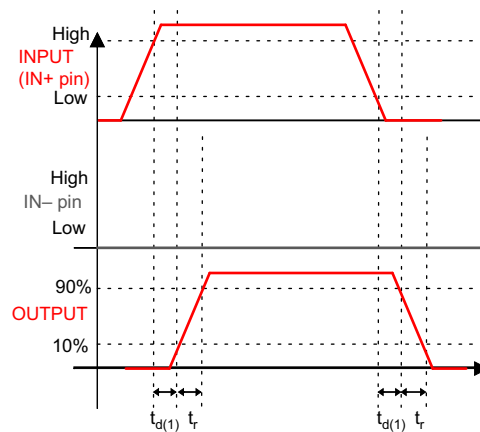
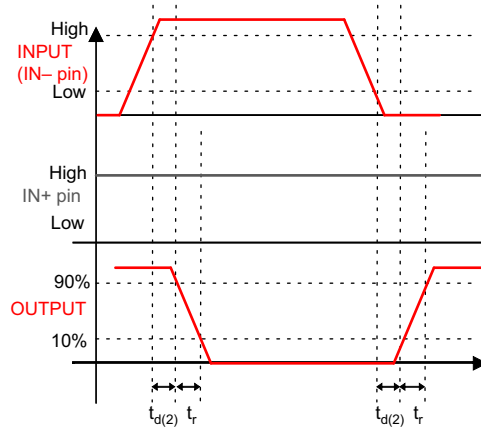

Figure 5-1. Non-Inverting Configuration (PWM Input to IN+ pin (IN– Pin Tied to GND), Output Represents OUTH and OUTL Pins Tied Together in the UCC27511A-Q1)
Figure 5-2. Inverting Configuration (PWM Input to IN– Pin (IN+ Pin Tied to V_{DD}), Output Represents OUTH and OUTL Pins Tied Together in the UCC27511A-Q1)
$V_{DD} = 12\text{ V}$, $T_A = T_J = -40^\circ\text{C}$ to 140°C , $1\text{-}\mu\text{F}$ capacitor from V_{DD} to GND. Currents are positive into, negative out of the specified terminal. See Figure 5-1, Figure 5-2, Figure 5-3, and Figure 5-4
(1) See timing diagrams in Figure 5-1, Figure 5-2, Figure 5-3, and Figure 5-4.